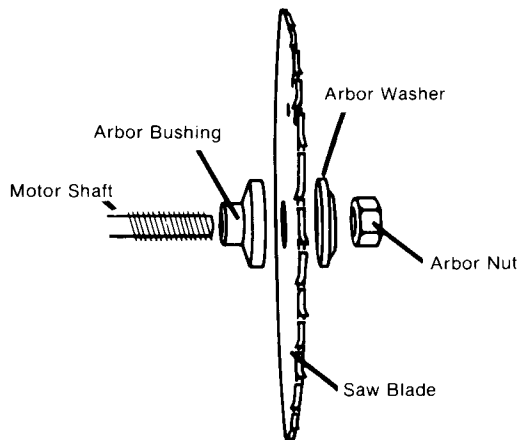
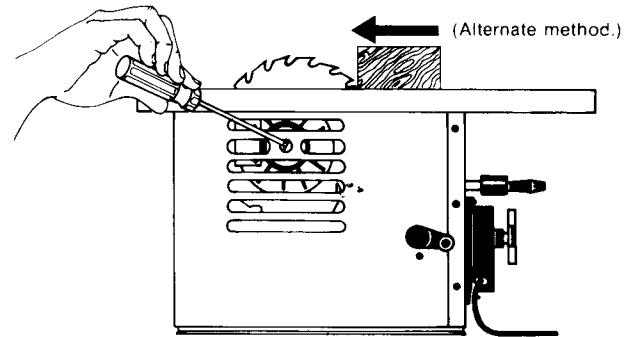

Figure 15
Figure 17
- D. Install the Arbor Bushing on the motor shaft as shown in **figure 15**.
- F. Place the Arbor Washer against the blade as shown in **figure 15** (concave side toward blade), and thread the Arbor Nut on and tighten securely. NOTE: As you tighten the Arbor Nut, insert a screwdriver blade into the slot in the motor shaft through the hole in the left side of the Saw Housing as shown in **figure 17**. NOTE: An alternate method for holding the blade in place while tightening is to push a block of wood into the saw teeth as shown in **figure 17**.